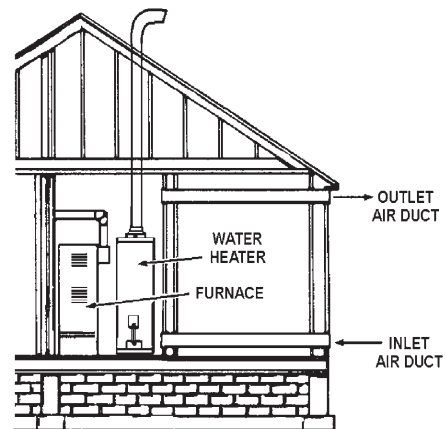

FIGURE 9.
3. When communicating with the outdoors through horizontal ducts, each opening shall have a minimum free area of 1 square inch per 2,000 Btu per hour (11 cm2/kW) of total input rating of all equipment in the enclosure, see Figure 9.
4. When ducts are used, they shall be of the same cross-sectional area as the free area of the openings to which they connect. The minimum short side dimension of rectangular air ducts shall not be less than 3 inches (7.6 cm), see Figure 9.